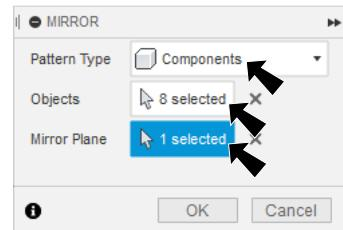

Fig. 38
Step 3. In the Mirror panel set, Fig. 38